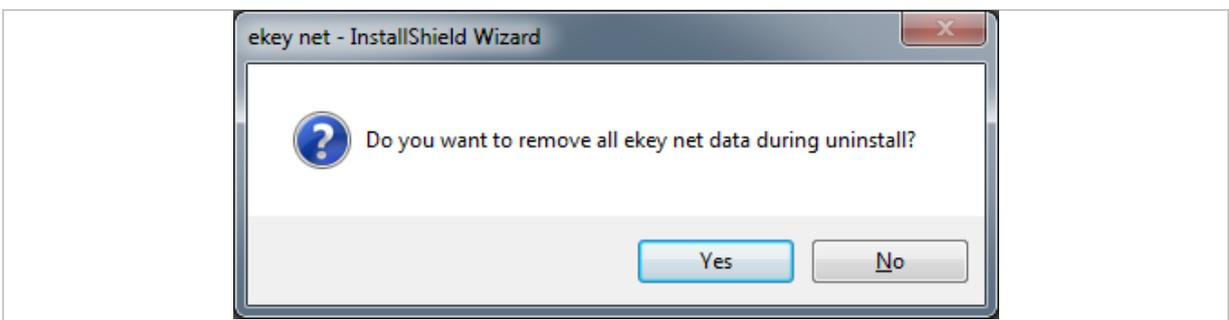

Fig. 13: Uninstallation dialog: Removing *ekey net* data
3.	You can now choose to delete all data generated by the ekey net system (see "Fig. 13: Uninstallation dialog: Removing ekey net data", page 24). Select No if you wish to archive your ekey net data.